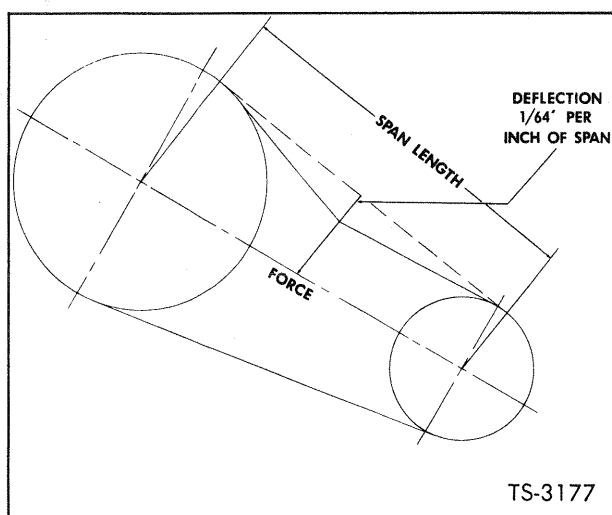

Fig. 9 Check Belt Tension
2. At the center of the span, apply a force with a spring scale (at right angles to the span) large enough to deflect the belt $\frac{1}{64}$ of an inch per inch of span. Refer to Fig. 9.